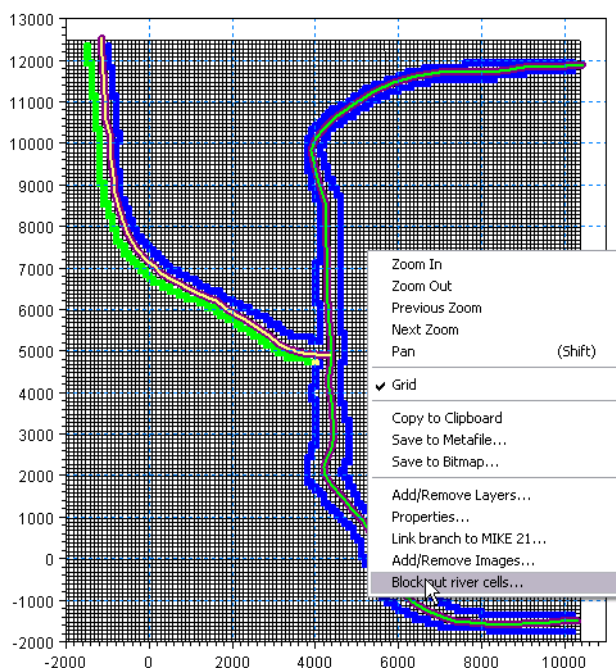

Figure 3.42 Accessing the blockage tool in MIKE FLOOD
1. In the MIKE FLOOD graphical view right click and select the 'Block out river cells...' option (see Figure 3.42).